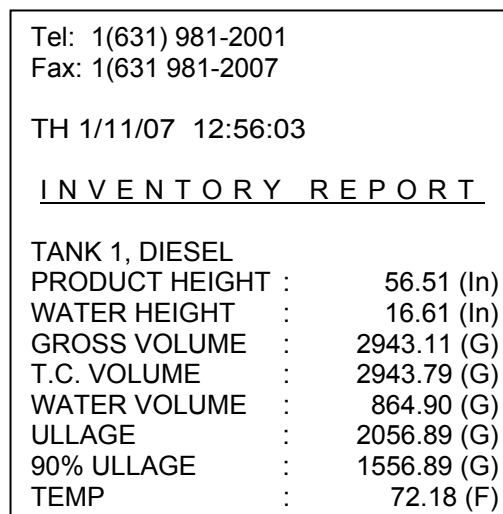

Figure 3-4b: PRINT ALL
- ◆ PRINT ALL – prints out an inventory report for all enabled tanks. It provides the current date and time and, for each tank, it provides: product type, product height, water height, gross volume, T.C. volume, water volume, ullage, and present temperature (see Figure 3-4b).